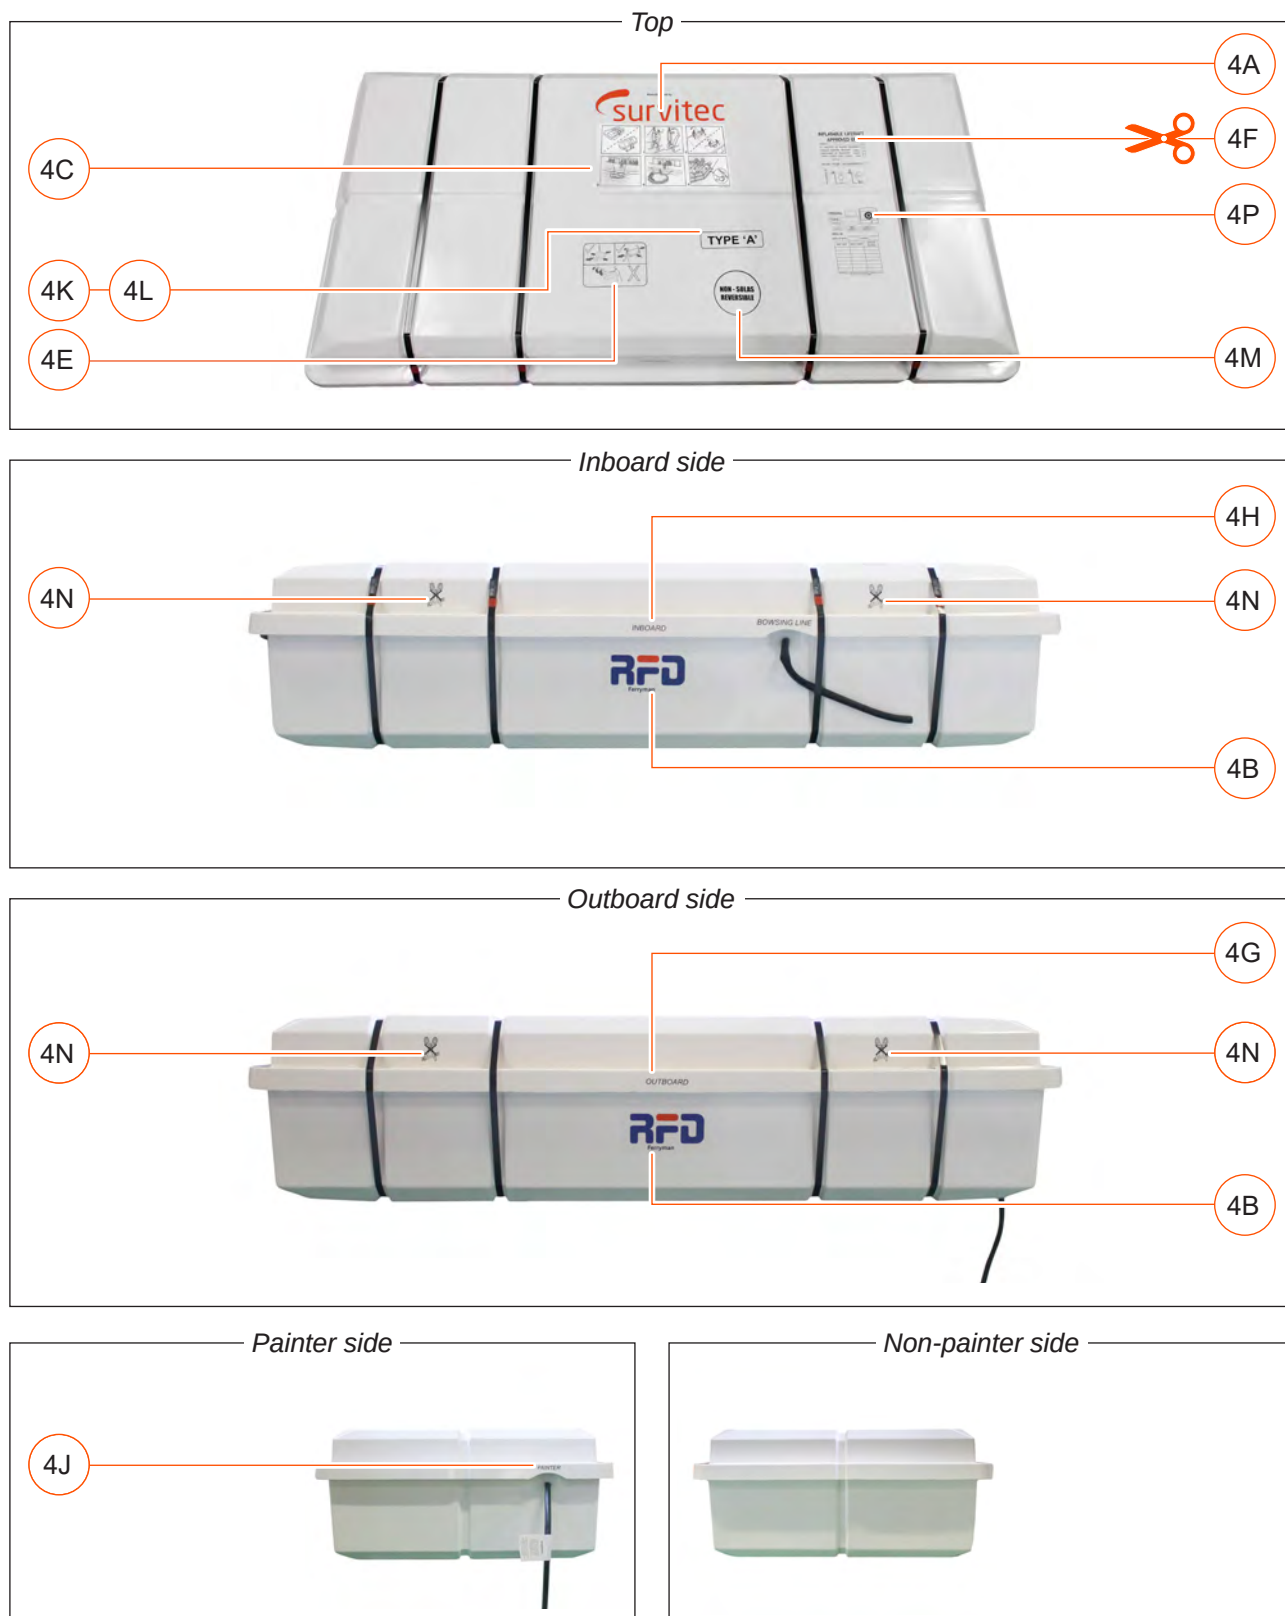

Figure 35
- Mk 16 size 3. Refer to **Figure 35** for label positions.